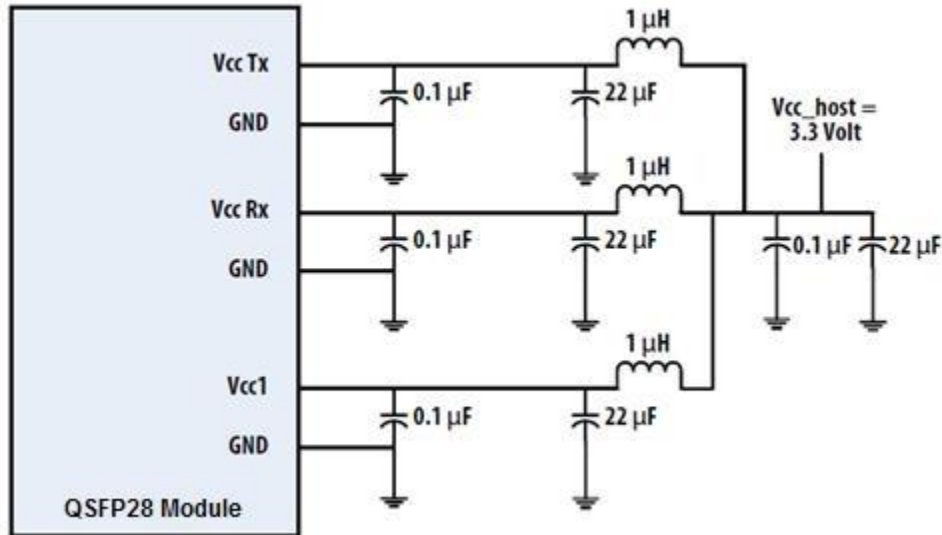

Figure 3. Recommended Power Supply Filter
- VccRx, Vcc1 and VccTx are the receiving and transmission power suppliers and shall be applied concurrently. Recommended host board power supply filtering is shown in Figure 3 below. Vcc Rx, Vcc1 and Vcc Tx may be internally connected within the QSFP28 transceiver module in any combination.